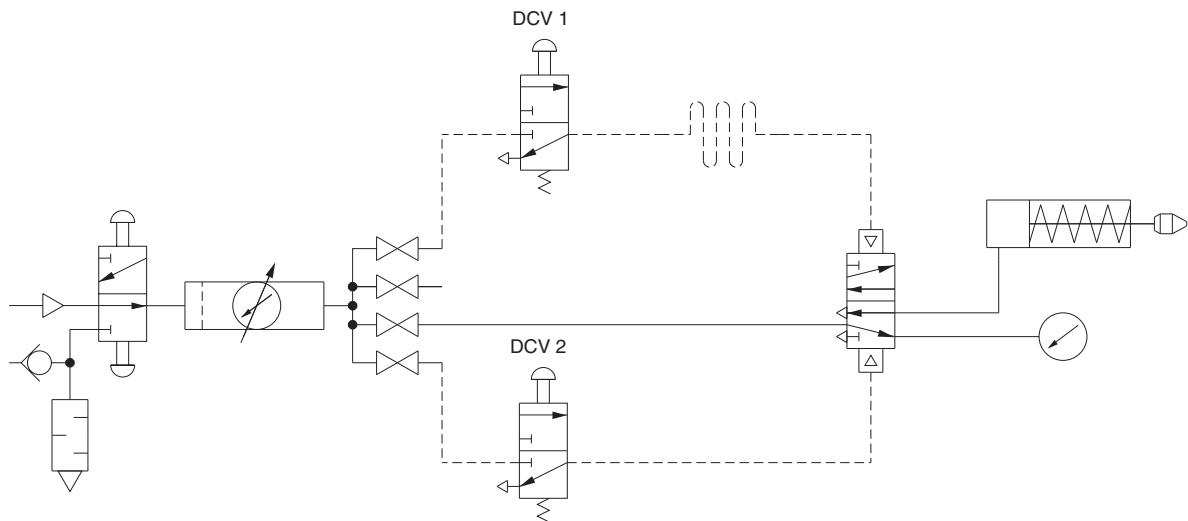

Figure 4-6. Schematic Diagram of an Indirect Control Circuit.
- 14. Modify your circuit as shown in Figure 4-6.
- 16. Push down the button on the directional control valve DCV2 to set the spool in the pilot-operated valve as illustrated in Figure 4-6. The piston rod should be retracted.